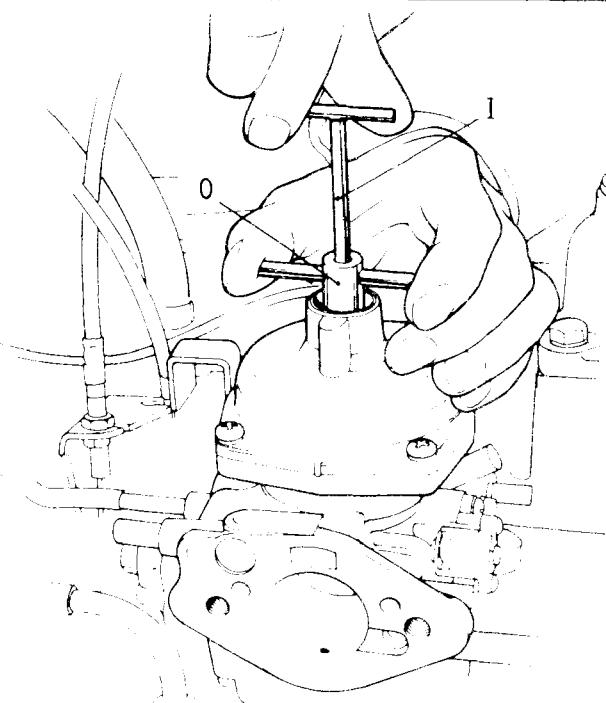

Fig. 29 Adjusting mixture
Should the mixture require adjustment, remove the carburettor damper and carefully insert the special tool S 353 into the hollow piston rod (Fig. 29) so that the inner part of the tool (1) engages in the female hexagon in the needle adjusting screw.